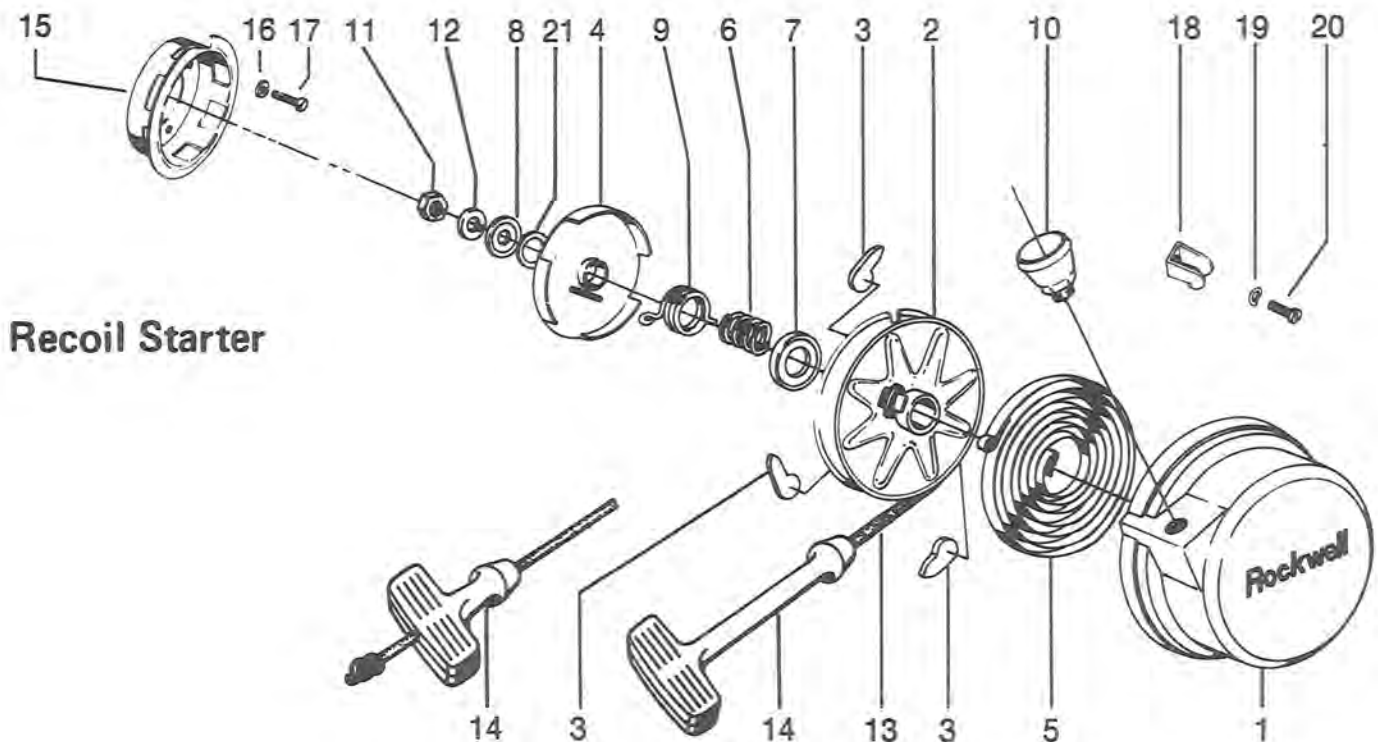

FIG. 1-46
(See Fig. 1-46 for recoil start breakdown, and Fig 1-47 for Recoil Starter Assembly.)
7. Apply a light film of Lubriplate or equivalent to pawls (6) and install them on the reel in the pawl retainers. (Fig. 1-60). (See Fig. 1-46 for part identification numbers.)
8. Install cup washer (7) flat side down, spring (6) and return spring. Ensure that plain end of return spring is properly engaged in the retaining hole in reel hub.